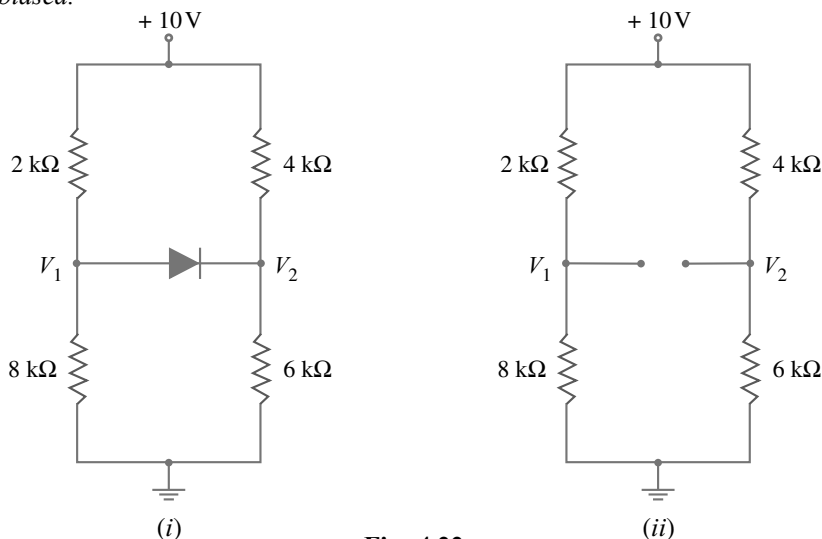

Fig. 4.22
**Example 4.20.** Determine if the diode (ideal) in Fig. 4.22 (i) is forward biased or reverse biased.
**Solution.** Let us assume that diode in Fig. 4.22 (i) is *OFF* i.e. it is reverse biased. The circuit then becomes as shown in Fig. 4.22 (ii). Referring to Fig. 4.22 (ii), we have,